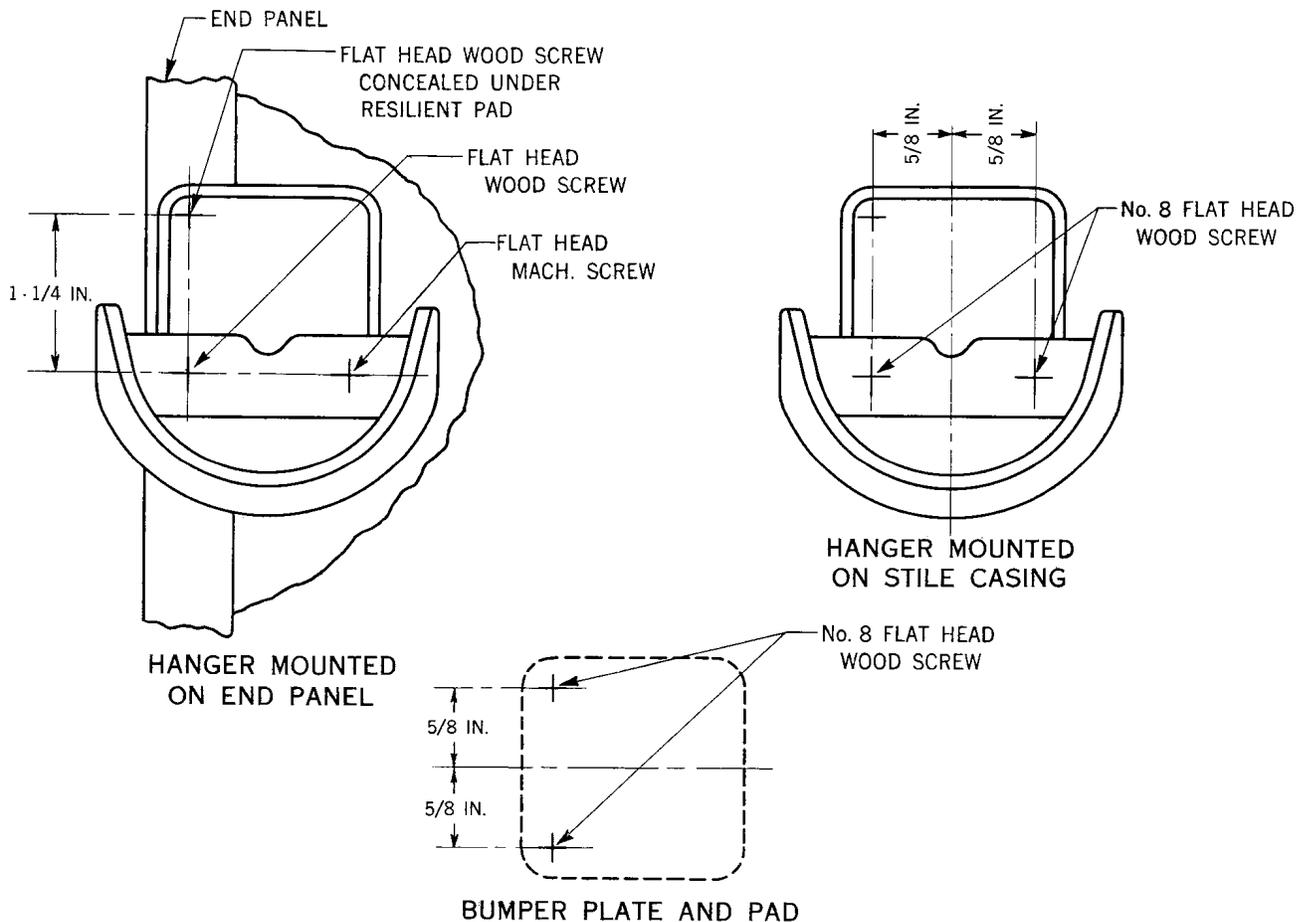

Fig. 3 – Drilling Information for 9A Handset Hanger
4.01 Measure and drill the end panels of the switchboard provided and mount the hanger and bumper plates as shown in Fig. 2 and Fig. 3.